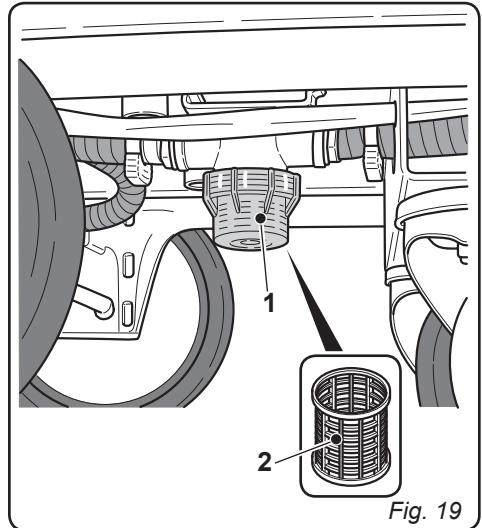

Fig. 19
10.1.d - Cleaning the clean water filter (Fig. 19)
- Unscrew the transparent filter cover (1) and remove the filter (2).
- Clean the filter (2) using running water.